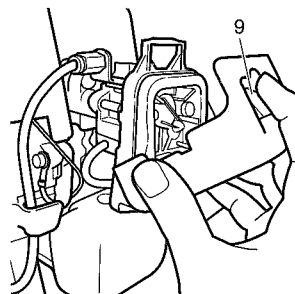

Fig. 6
Press the upper tab (9) and open the air cleaner cover. (Fig. 6)